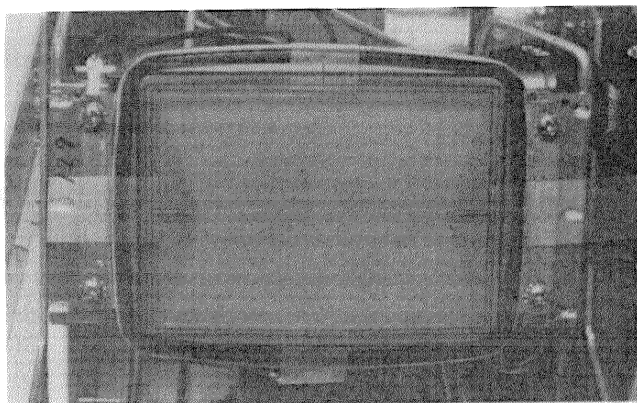

Figure 5-2. CRT Test Pattern Overlay in Position
- b. Adjust the position of the overlay until the wide outer lines are parallel to, and centered both horizontally and vertically between, the edges of the screen. The proper position is shown in figure 5-2.